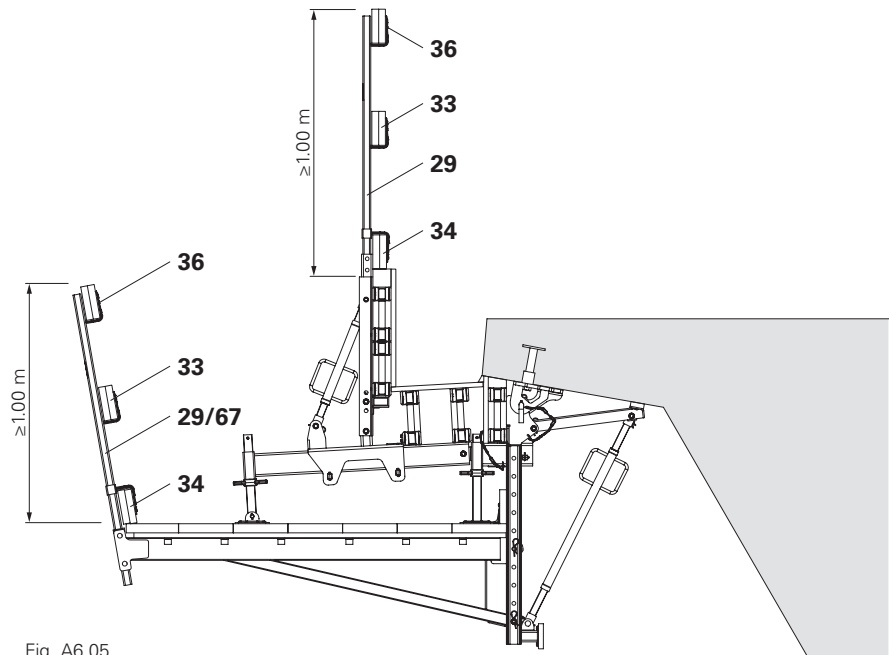

Fig. A6.05
- Fix guardrail boards (33) and toe boards (34) to Guardrail Posts HSGP-2 (29) with wire pins or wood screws (36). (Fig. A6.05)
- Alternatively, Guardrail Post SGP (67) can be fitted instead of Guardrail Post HSGP-2 (29).
- Lateral protection or full enclosure is only possible with the use of VGK Flex with Guardrail Post HSGP-2 (29).
- In case of partial or complete enclosure of the lateral protection or use with Guardrail Post SGP (67), the permissible influence width of the guardrail post may limit the bracket spacing.